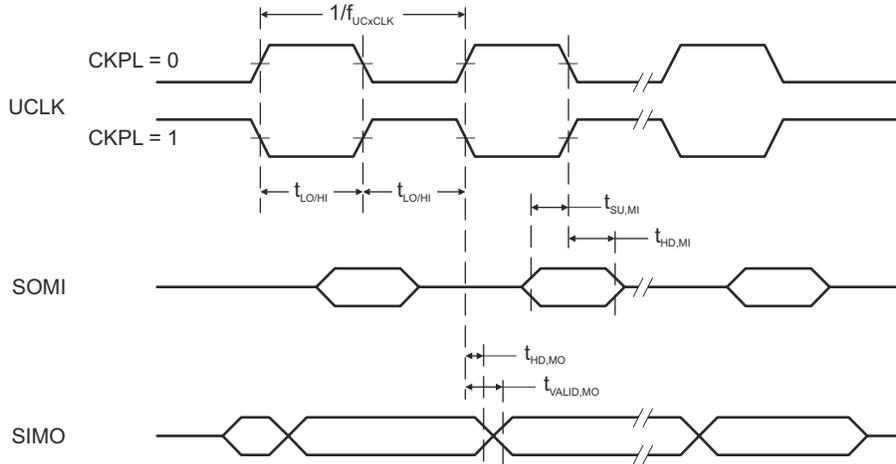
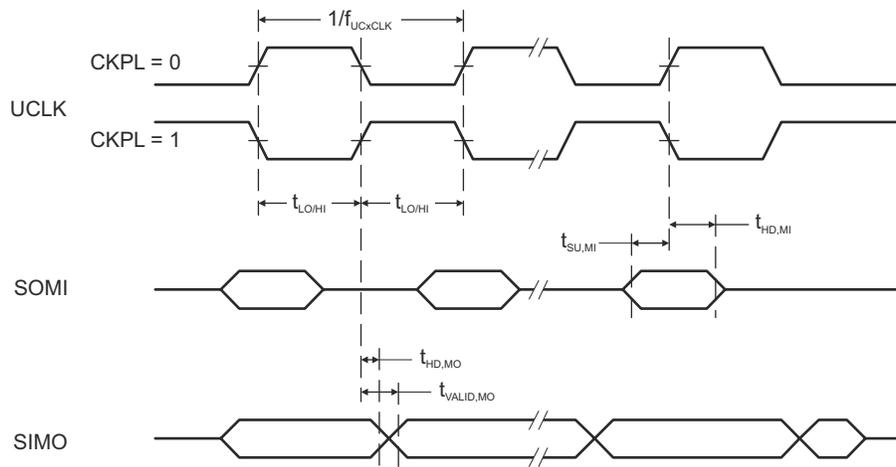

图 8-11. SPI Master Mode, CKPH = 0
图 8-12. SPI Master Mode, CKPH = 1
(see Fig 8-11 and Fig 8-12)
- (2) Specifies the time to drive the next valid data to the SIMO output after the output changing UCLK clock edge. See the timing diagrams in Fig 8-11 and Fig 8-12.
- (3) Specifies how long data on the SIMO output is valid after the output changing UCLK clock edge. Negative values indicate that the data on the SIMO output can become invalid before the output changing clock edge observed on UCLK. See the timing diagrams in Fig 8-11 and Fig 8-12.